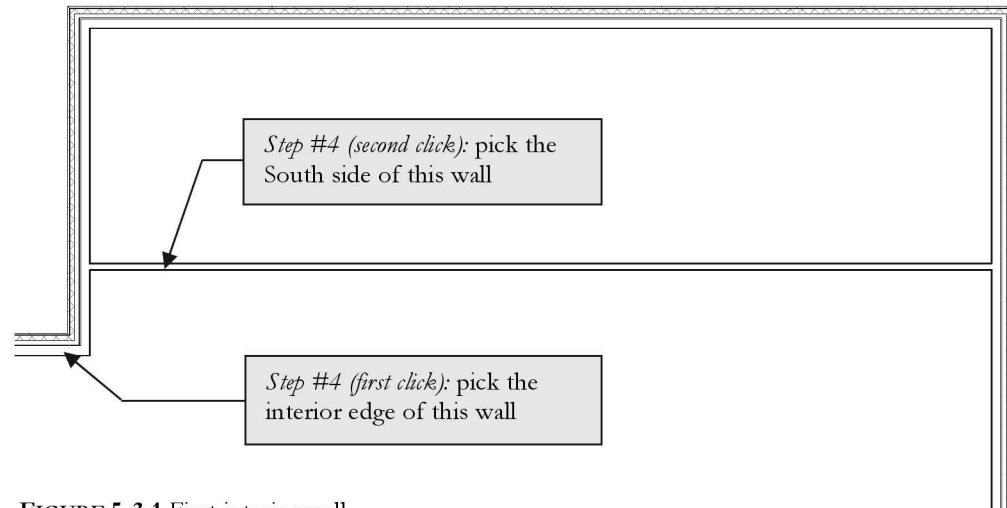
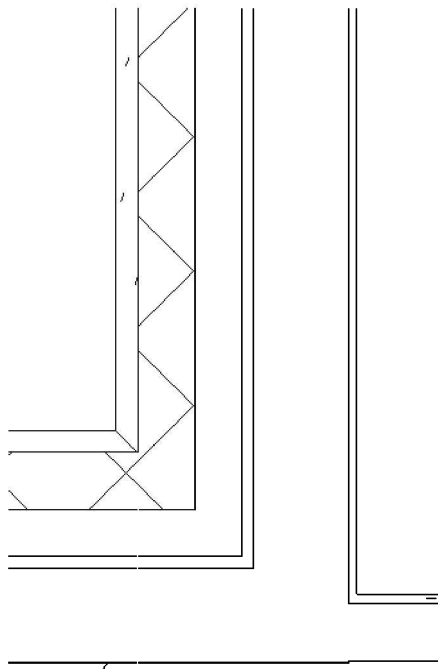

FIGURE 5-3.1 First interior wall
FIGURE 5-3.2 Aligned wall
3. Draw a horizontal, East to West, wall approximately as shown in Figure 5-3.1. Do not worry about the location; you will adjust its exact position in the next step.
4. Use the **Align** tool to align the interior wall you just drew with the edge of the exterior wall (Figure 5-3.1). Set *Prefer* to Wall Faces on the *Options Bar*. When you are done, the wall should look like Figure 5-3.2.